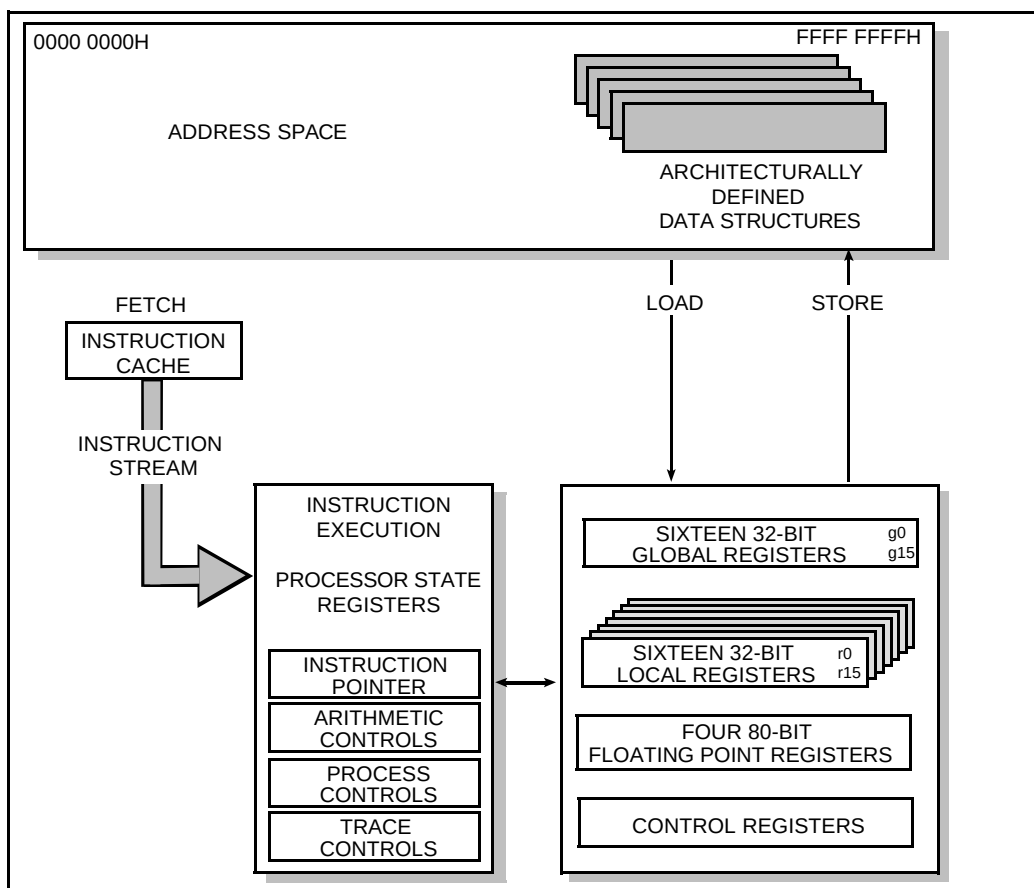

Figure 2. 80960SB Programming Environment
| Figure 2 80960SB Programming Environment .....                                                                                                      | 1    |
1. **Large Register Set.** Having a large number of registers reduces the number of times that a processor needs to access memory. Modern compilers can take advantage of this feature to optimize execution speed. For maximum flexibility, the 80960SB provides thirty-two 32-bit registers and four 80-bit floating point registers. (See Figure 2.)